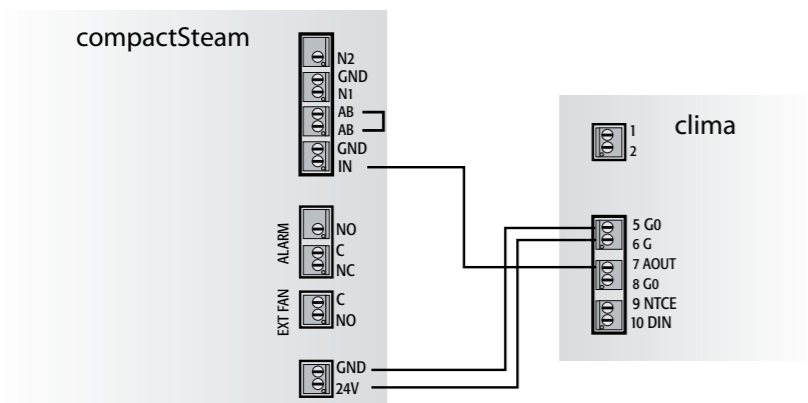

Fig. 1
1. Соедините оба устройства прилагаемым проводом как показано на рис. 1;
- proportional regulation (default): The control algorithm works as shown in Fig. 2 diagram where humidity request is at maximum (10 V on output on terminal 7 AOUT in fig. 1) until the “set point – differential” range threshold is reached. After this threshold is reached, the clima output signal gradually lowers within the set differential to 0 V when the set point is reached;
1. connect the two devices with the supplied wire as shown in Fig. 1 diagram;